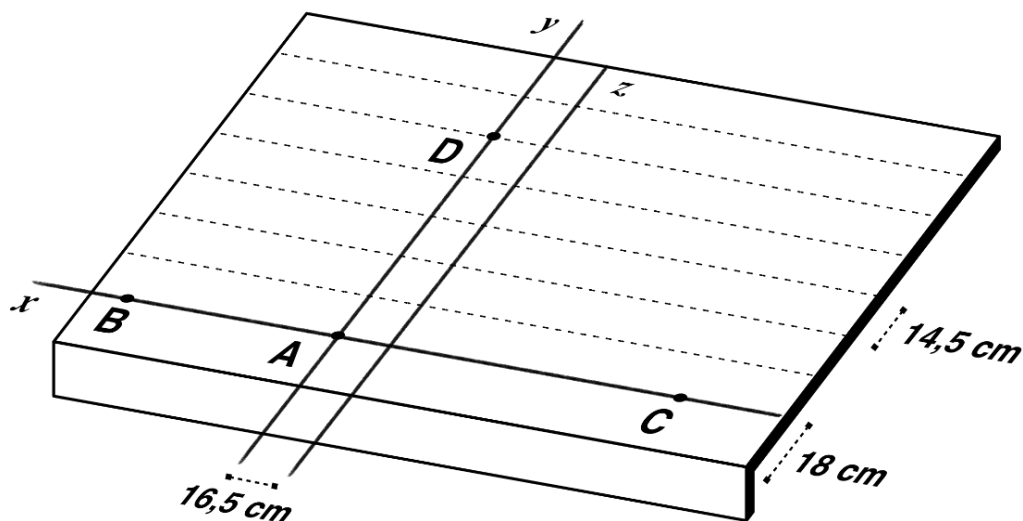

Fig. 3 - Tracing of the pitch [cm]
- Draw horizontal lines parallel to **x**, each one distant 14.5 cm from the previous, until you reach the ridge - see Fig. 3.